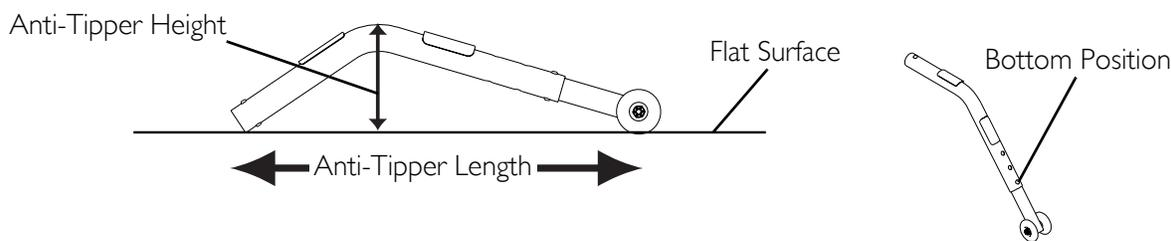
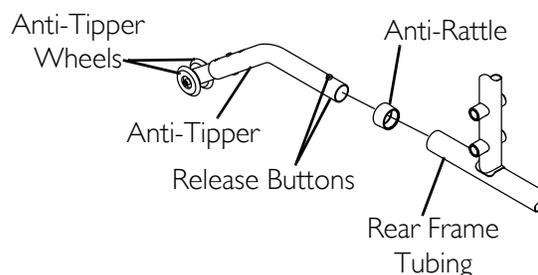

FIGURE 9.1 Installing/Adjusting Anti-tippers - Anti-Tipper Length
FIGURE 9.2 Installing Anti-Tippers
NOTE: For this procedure, refer to FIGURE 9.1 and FIGURE 9.2.
NOTE: To ensure the correct model anti-tipper is used refer to FIGURE 9.1. Measurements for anti-tippers are approximate and are taken with extension tube in bottom hole position.
1. Press the release buttons and insert the anti-tippers with the anti-tipper wheels pointing toward the ground/floor into the wheelchair frame tubing as shown in FIGURE 9.2.